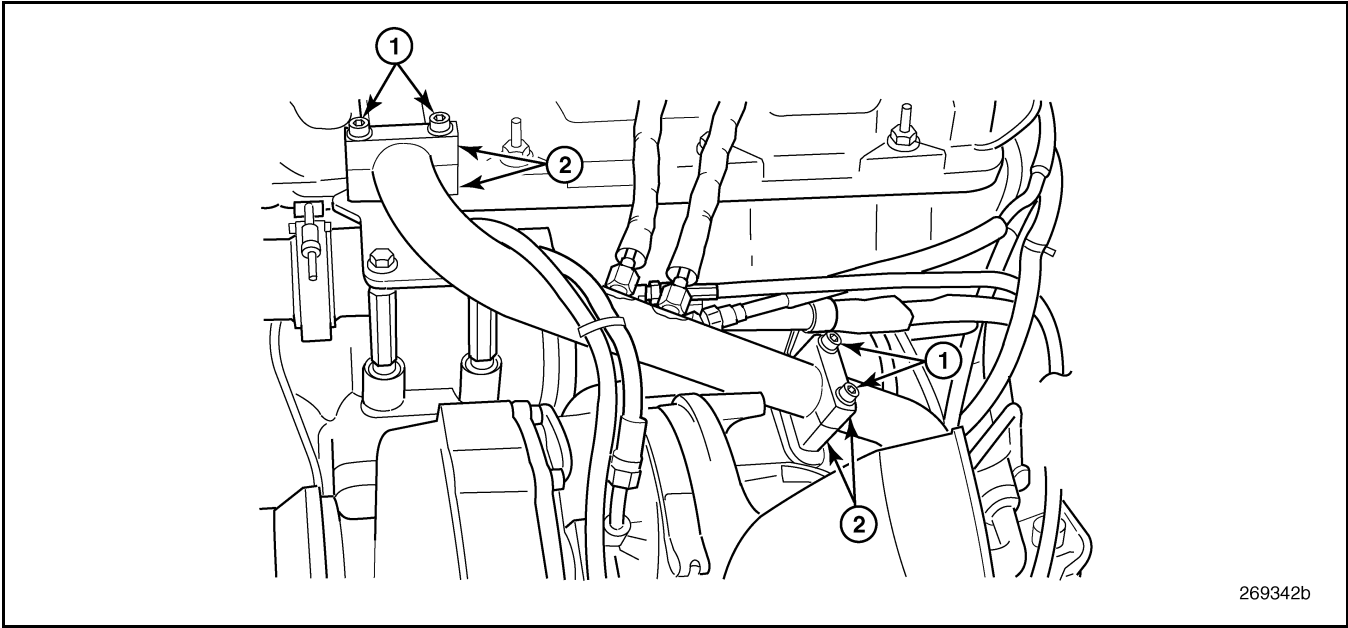

Figure 135 — Cool Tube Clamps
2. Loosen and remove the clamps securing the cool tube to the brackets at the EGR valve and the front section of the exhaust manifold (Figure 135).